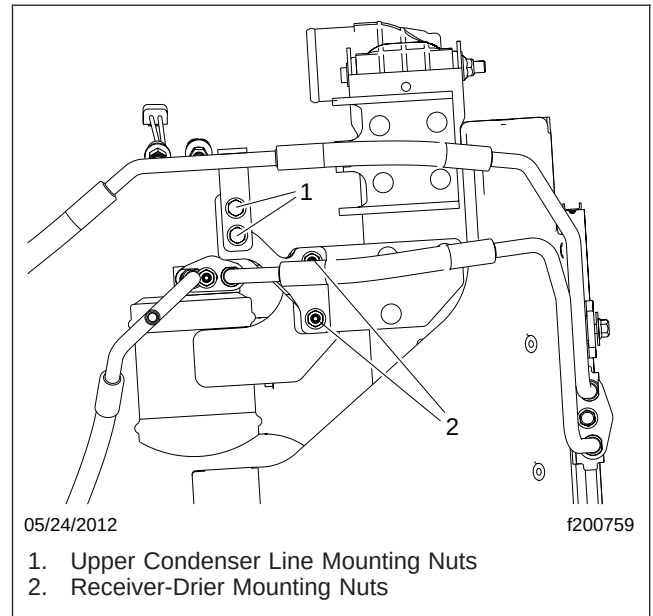

Fig. 6, Receiver-Drier Installation
- 13.1 Remove the receiver-drier and upper A/C hose mounting nuts, then free the receiver-drier. See Fig. 6.
- 5.2 Position the receiver-drier and upper A/C line on their respective brackets and install the mounting nuts. See Fig. 6. Tighten the nuts 14 to 16 lbf·ft (19 to 22 N·m).